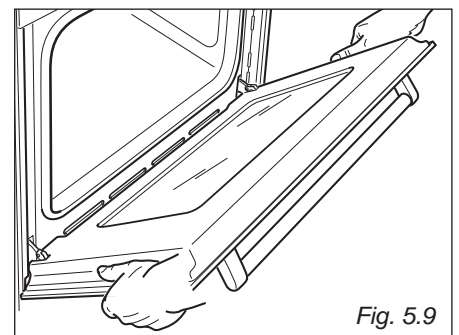
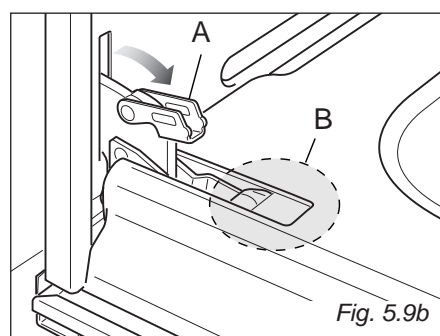

Fig. 5.9
Fig. 5.9b
- Open the lever "A" completely on the left and right hinges (fig. 5.9b).
- Hold the door as shown in fig. 5.9.
- Gently close the door (fig. 5.9) until left and right hinge levers "A" are hooked to part "B" of the door (fig. 5.9b)